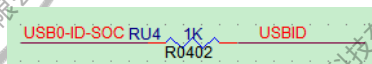

Figure 2-26 USB-ID Series Resistors
- Suggest that reserve the series resistors in the ID signal line. This is to avoid the signal undershoot when a USB device is inserted to affect the signal quality and to improve the ESD performance of IO signals. As shown in Figure 2-26.